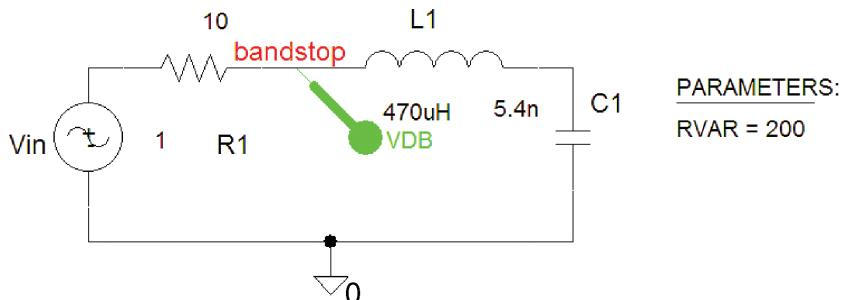

FIGURE 6.43: Series-tuned LCR circuit
- (3) For the *LCR* circuit in Fig. 6.43, with $V_1(t) = 5 \sin 2\pi f t$, $R_1 = 50\Omega$, $C_1 = 10\text{ }\mu\text{F}$, $L_1 = 100\text{ mH}$, determine the resonant frequency, loaded Q -factor, and maximum peak current. Use a **PARAM** part/**Parametric Sweep** to vary the capacitance to investigate the effect on the resonant frequency and the Q -factor ($Q = 1/r\sqrt{L/C}$).